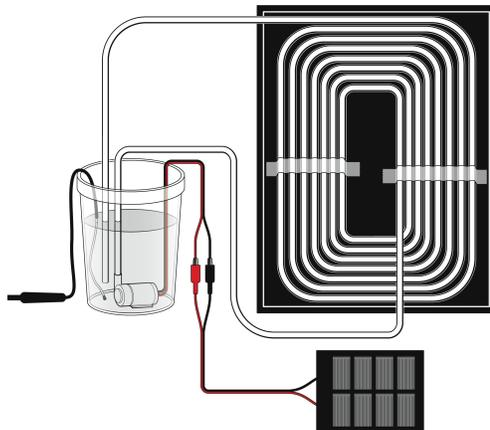

Figure 1
4. Set up the Solar Thermal Exploration Kit to test your first modification. **Note:** Figure 1 shows a generalized setup. Your setup may differ depending on the variable you are testing.